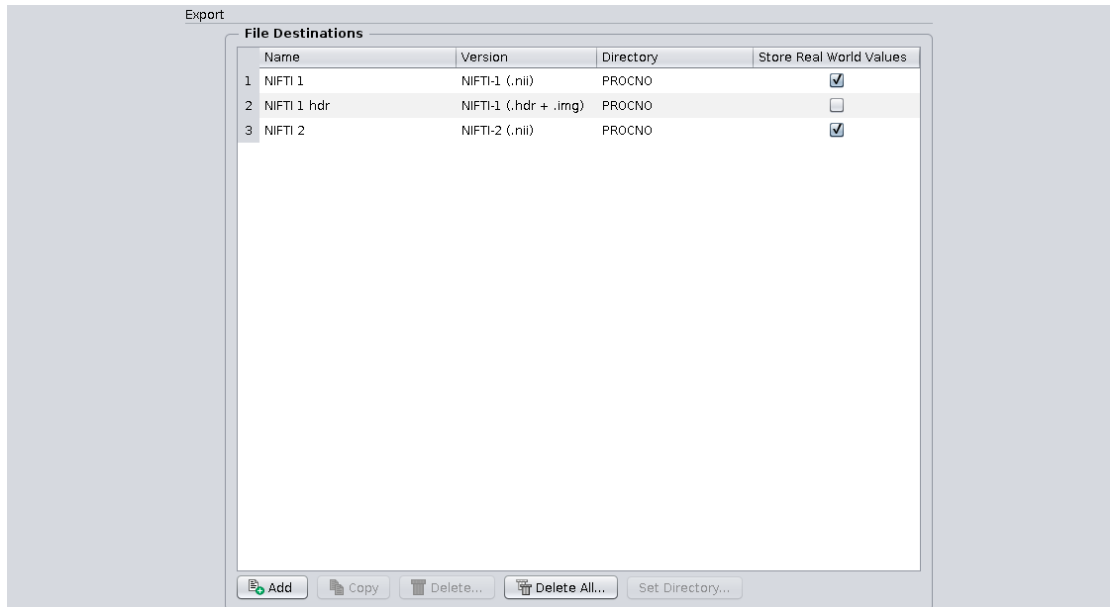

Figure 1.403: NIFTI Export Configuration
2. The dialog in [Figure 1.403 \[447\]](#) opens.